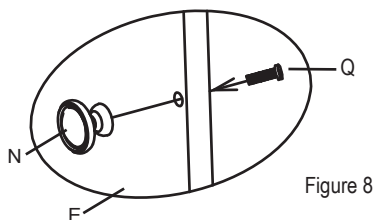

Figure 8
8. Attach the door handle (N) to the door panel (E) with the bolt (Q) using a Phillips screwdriver (NOT included), (see Figure 8).